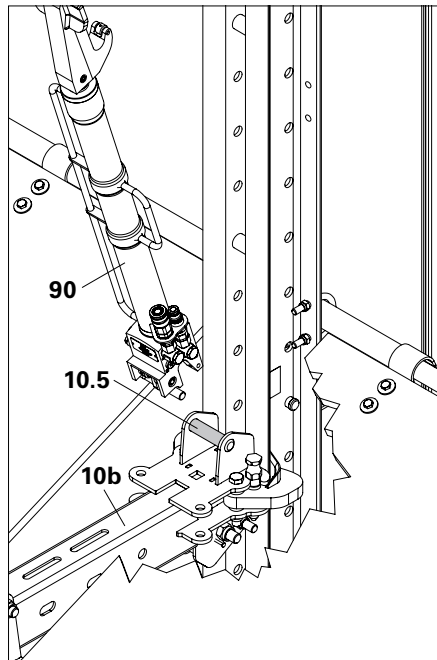

Fig. D5.03
2. Position the Climbing Device LPS (90) on the Bolts (10.5) of the middle Slab Shoe (10b) and engage. The climbing device is pressed against the Climbing Rail through spring force. Guide the claw into the Climbing Rail. (Fig. D5.03 + D5.03a)